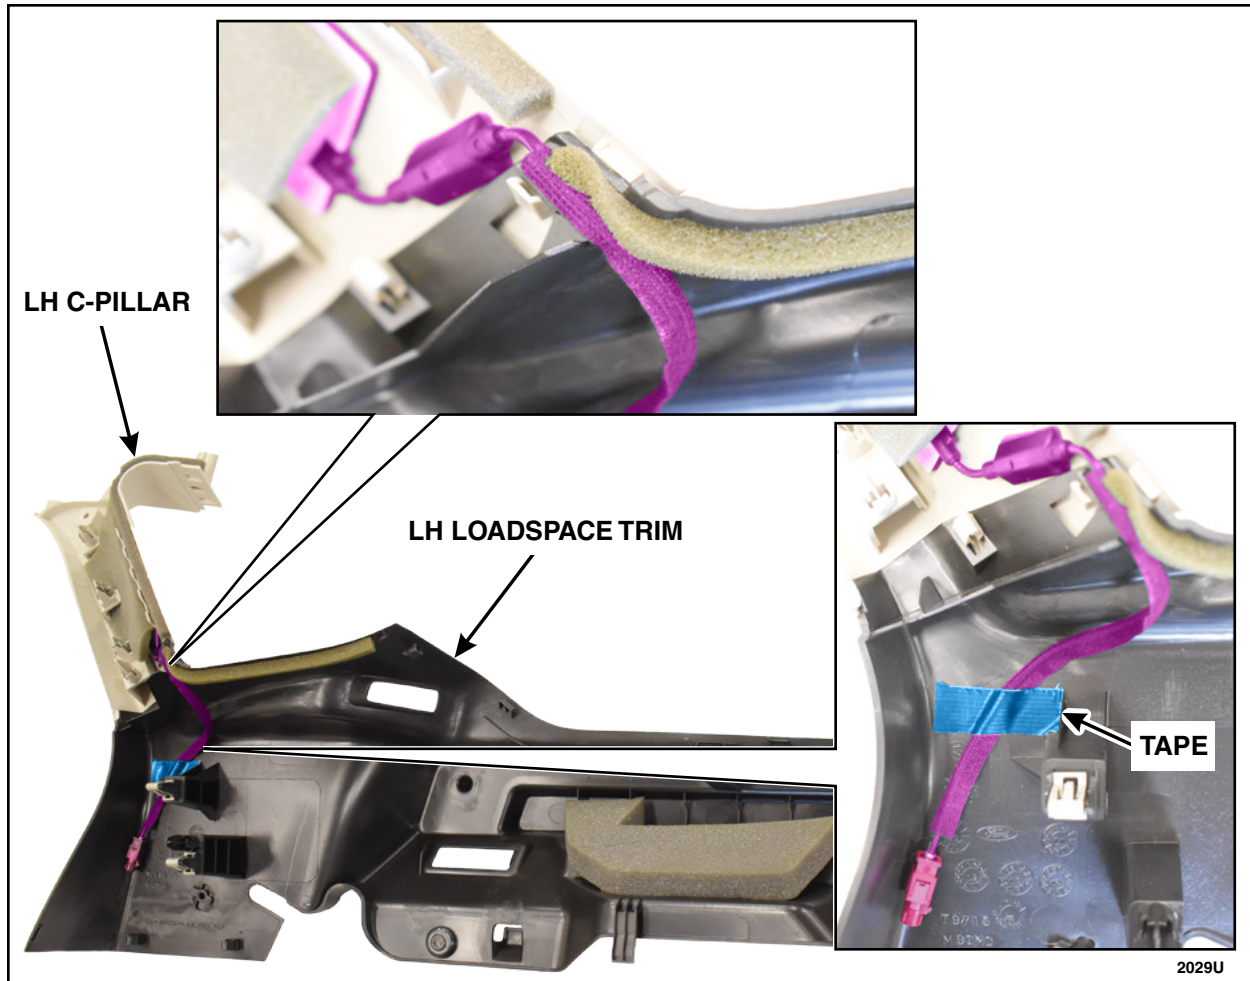

FIGURE 6
7. On a work surface, connect the LH C-pillar to the LH loadspace trim panel. Route the antenna coaxial cable as shown down to the loadspace trim and secure using a piece of tape. See Figure 6.